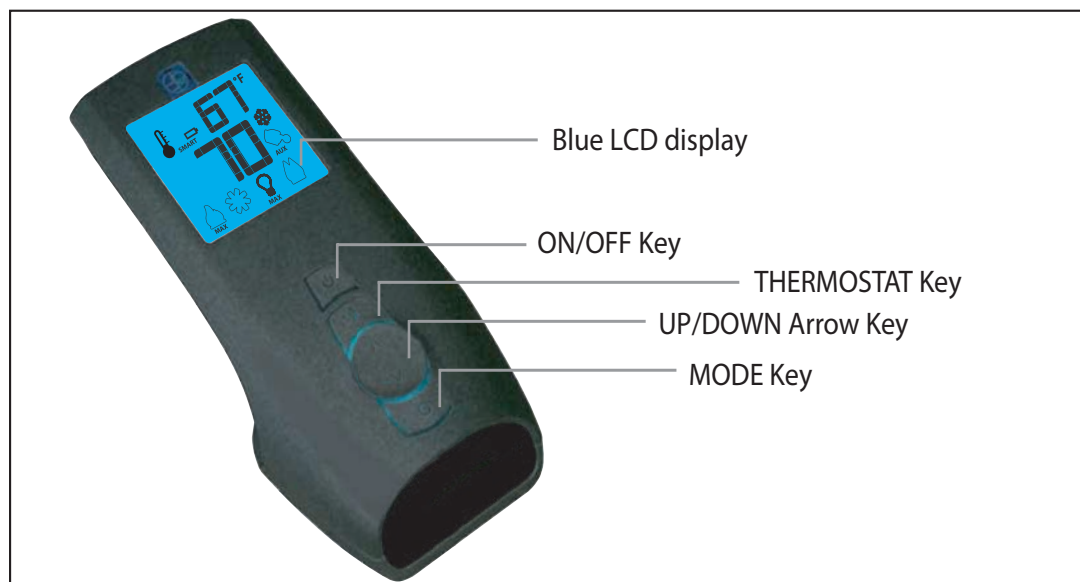
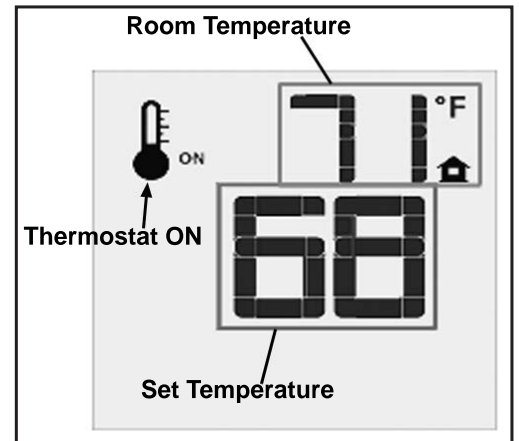
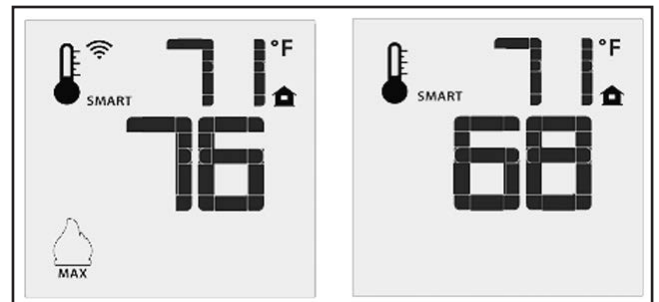
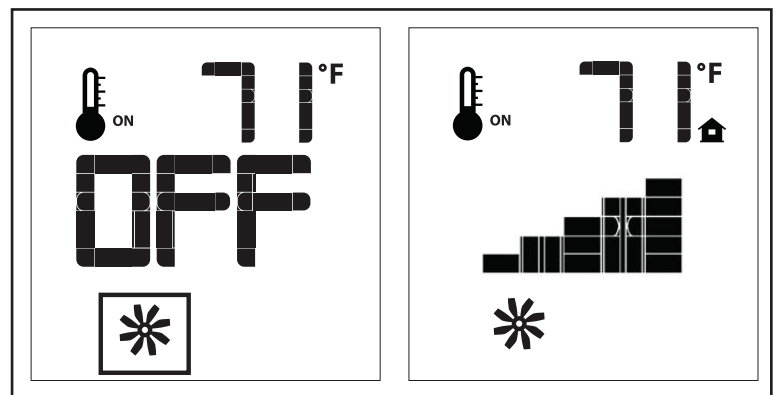

Figure 5: Proflame 2 Transmitter.
Figure 9: Remote Control Displays Set Temperature.
Figure 10: Remote Control's Smart Flame Function.
Figure 12: Fan Control
The Proflame 2 Transmitter is a remote control with a blue backlit LCD display. It uses a streamline design with a simple button layout and informative LCD readout (Figure 5). The Transmitter is powered by three (3) AAA type batteries. A Mode Key is provided to Index between the features and a Thermostat Key is used to turn on/off or index through Thermostat functions (Figure 5 & 6).
Press the ON/OFF Key on the Transmitter. The Transmitter LCD display will only show the room temperature and Icon (see Figure 9). A single “beep” from the IFC confirms reception of the command and both the pilot light (if the unit is not set to continuous pilot) and main burner will turn off.
The Remote Control can operate as a room thermostat. The thermostat can be set to a desired temperature to control the comfort level in a room. To activate this function, press the Thermostat Key (see Figure 5). The LCD display on the Transmitter will change to show that the room thermostat is “ON” and the set temperature is now displayed (see Figure 9). To adjust the set temperature, press the Up or Down Arrow Keys until the desired set temperature is displayed on the LCD screen of the Transmitter.
The Smart Thermostat function adjusts the flame height in accordance to the difference between the set point temperature and the actual room temperatures. As the room temperature gets closer to the set point the Smart Function will modulate the flame down. To activate this function, press the Thermostat Key (Figure 5) until the word “SMART” appears to the right of the temperature bulb graphic (Figure 10). To adjust the set temperature, press the Up or Down Arrow Keys until the desired set temperature is displayed on the LCD screen of the Transmitter.
The E33 comes with a convection fan that can be controlled with the Transmitter. The fan speed can be adjusted through six (6) speeds. To control the fan press the MODE key (Figure 5) to index to the fan control icon (Figure 12). Use the UP/DOWN arrow keys to turn on, off, or adjust the fan speed (Figure 12). A single beep from the IFC will confirm the command has been received